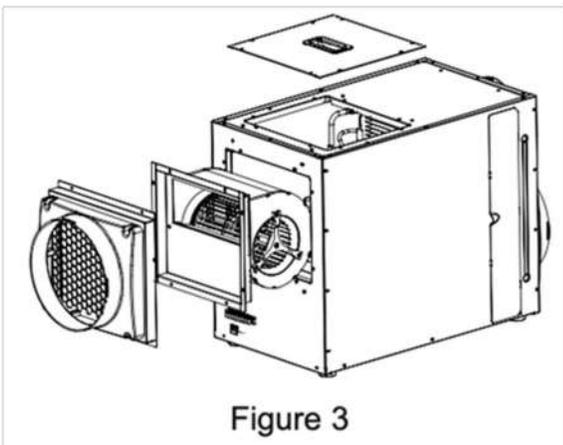

Figure 3
- Using a Phillips head screw driver, remove the four screws holding the duct grate to the dehumidifier housing (See Figure 3).